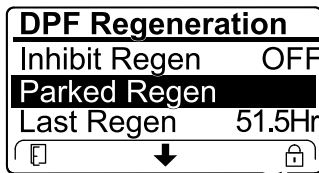

Figure 58
- If the engine computer requests a recovery regeneration or is processing a recovery regeneration and you scroll down to the PARKED REGEN option, parked regeneration locks and the lock icon (Figure 58) appears in the lower right corner of the InfoCenter.